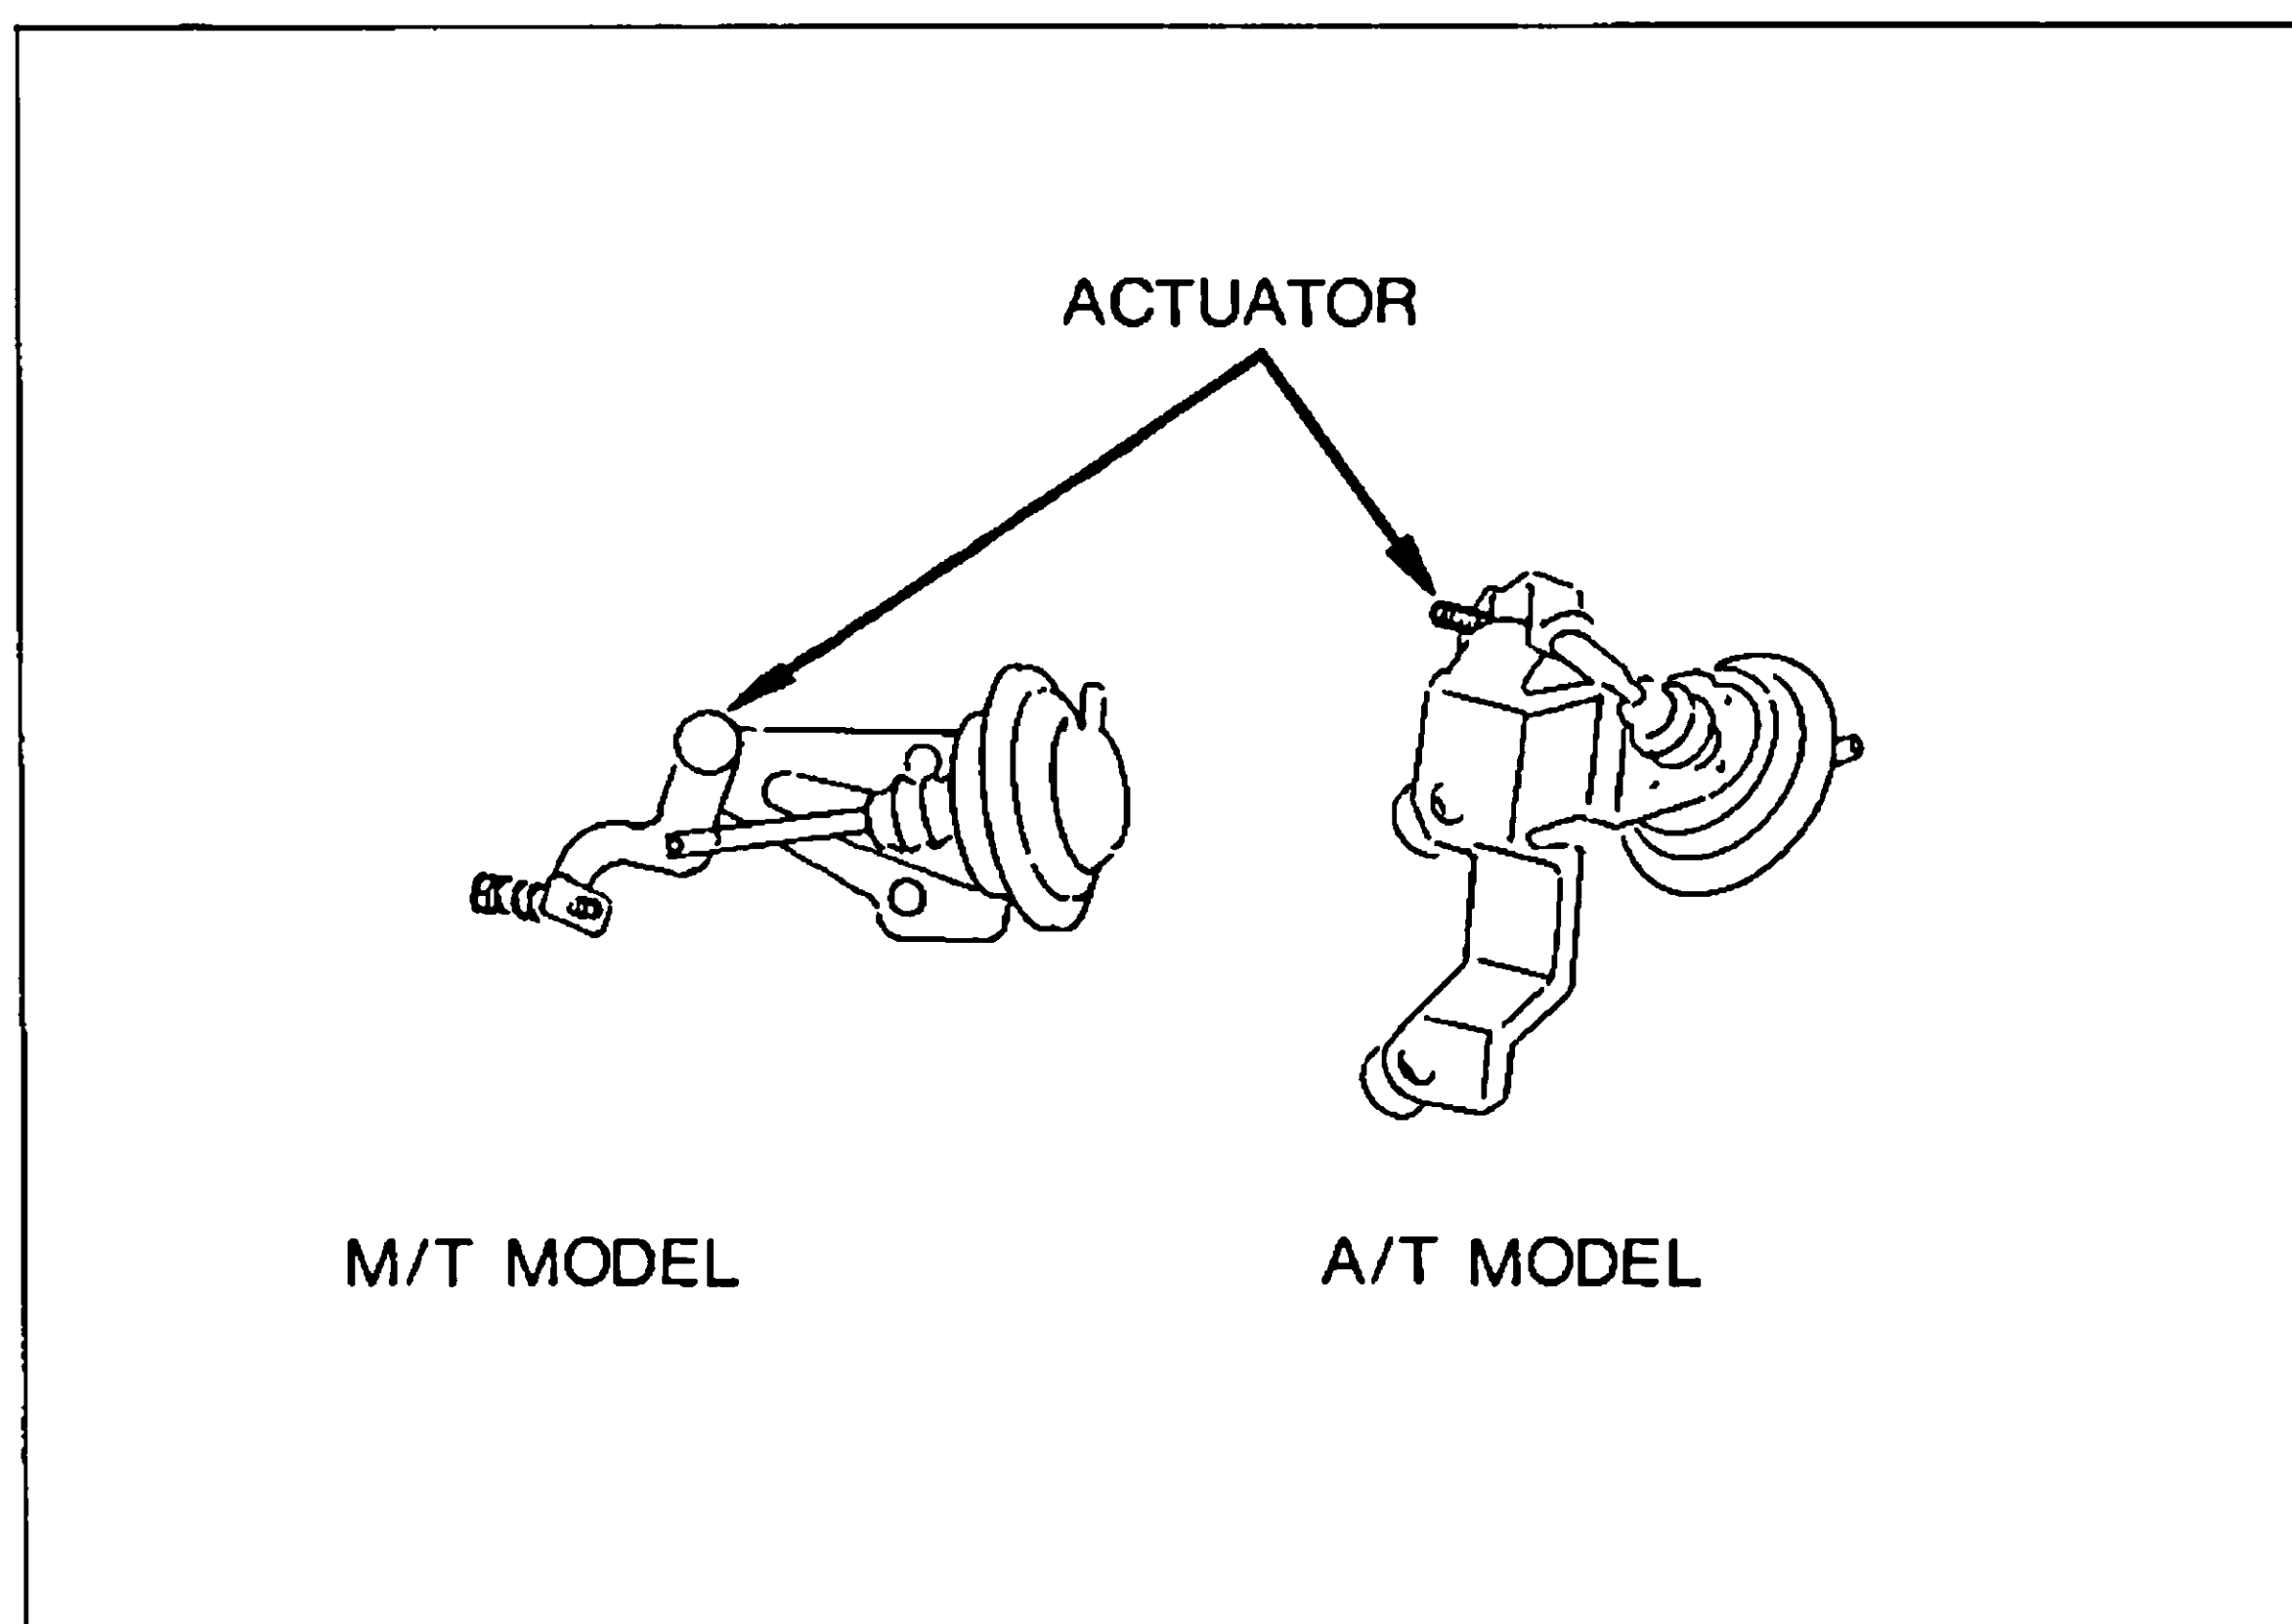
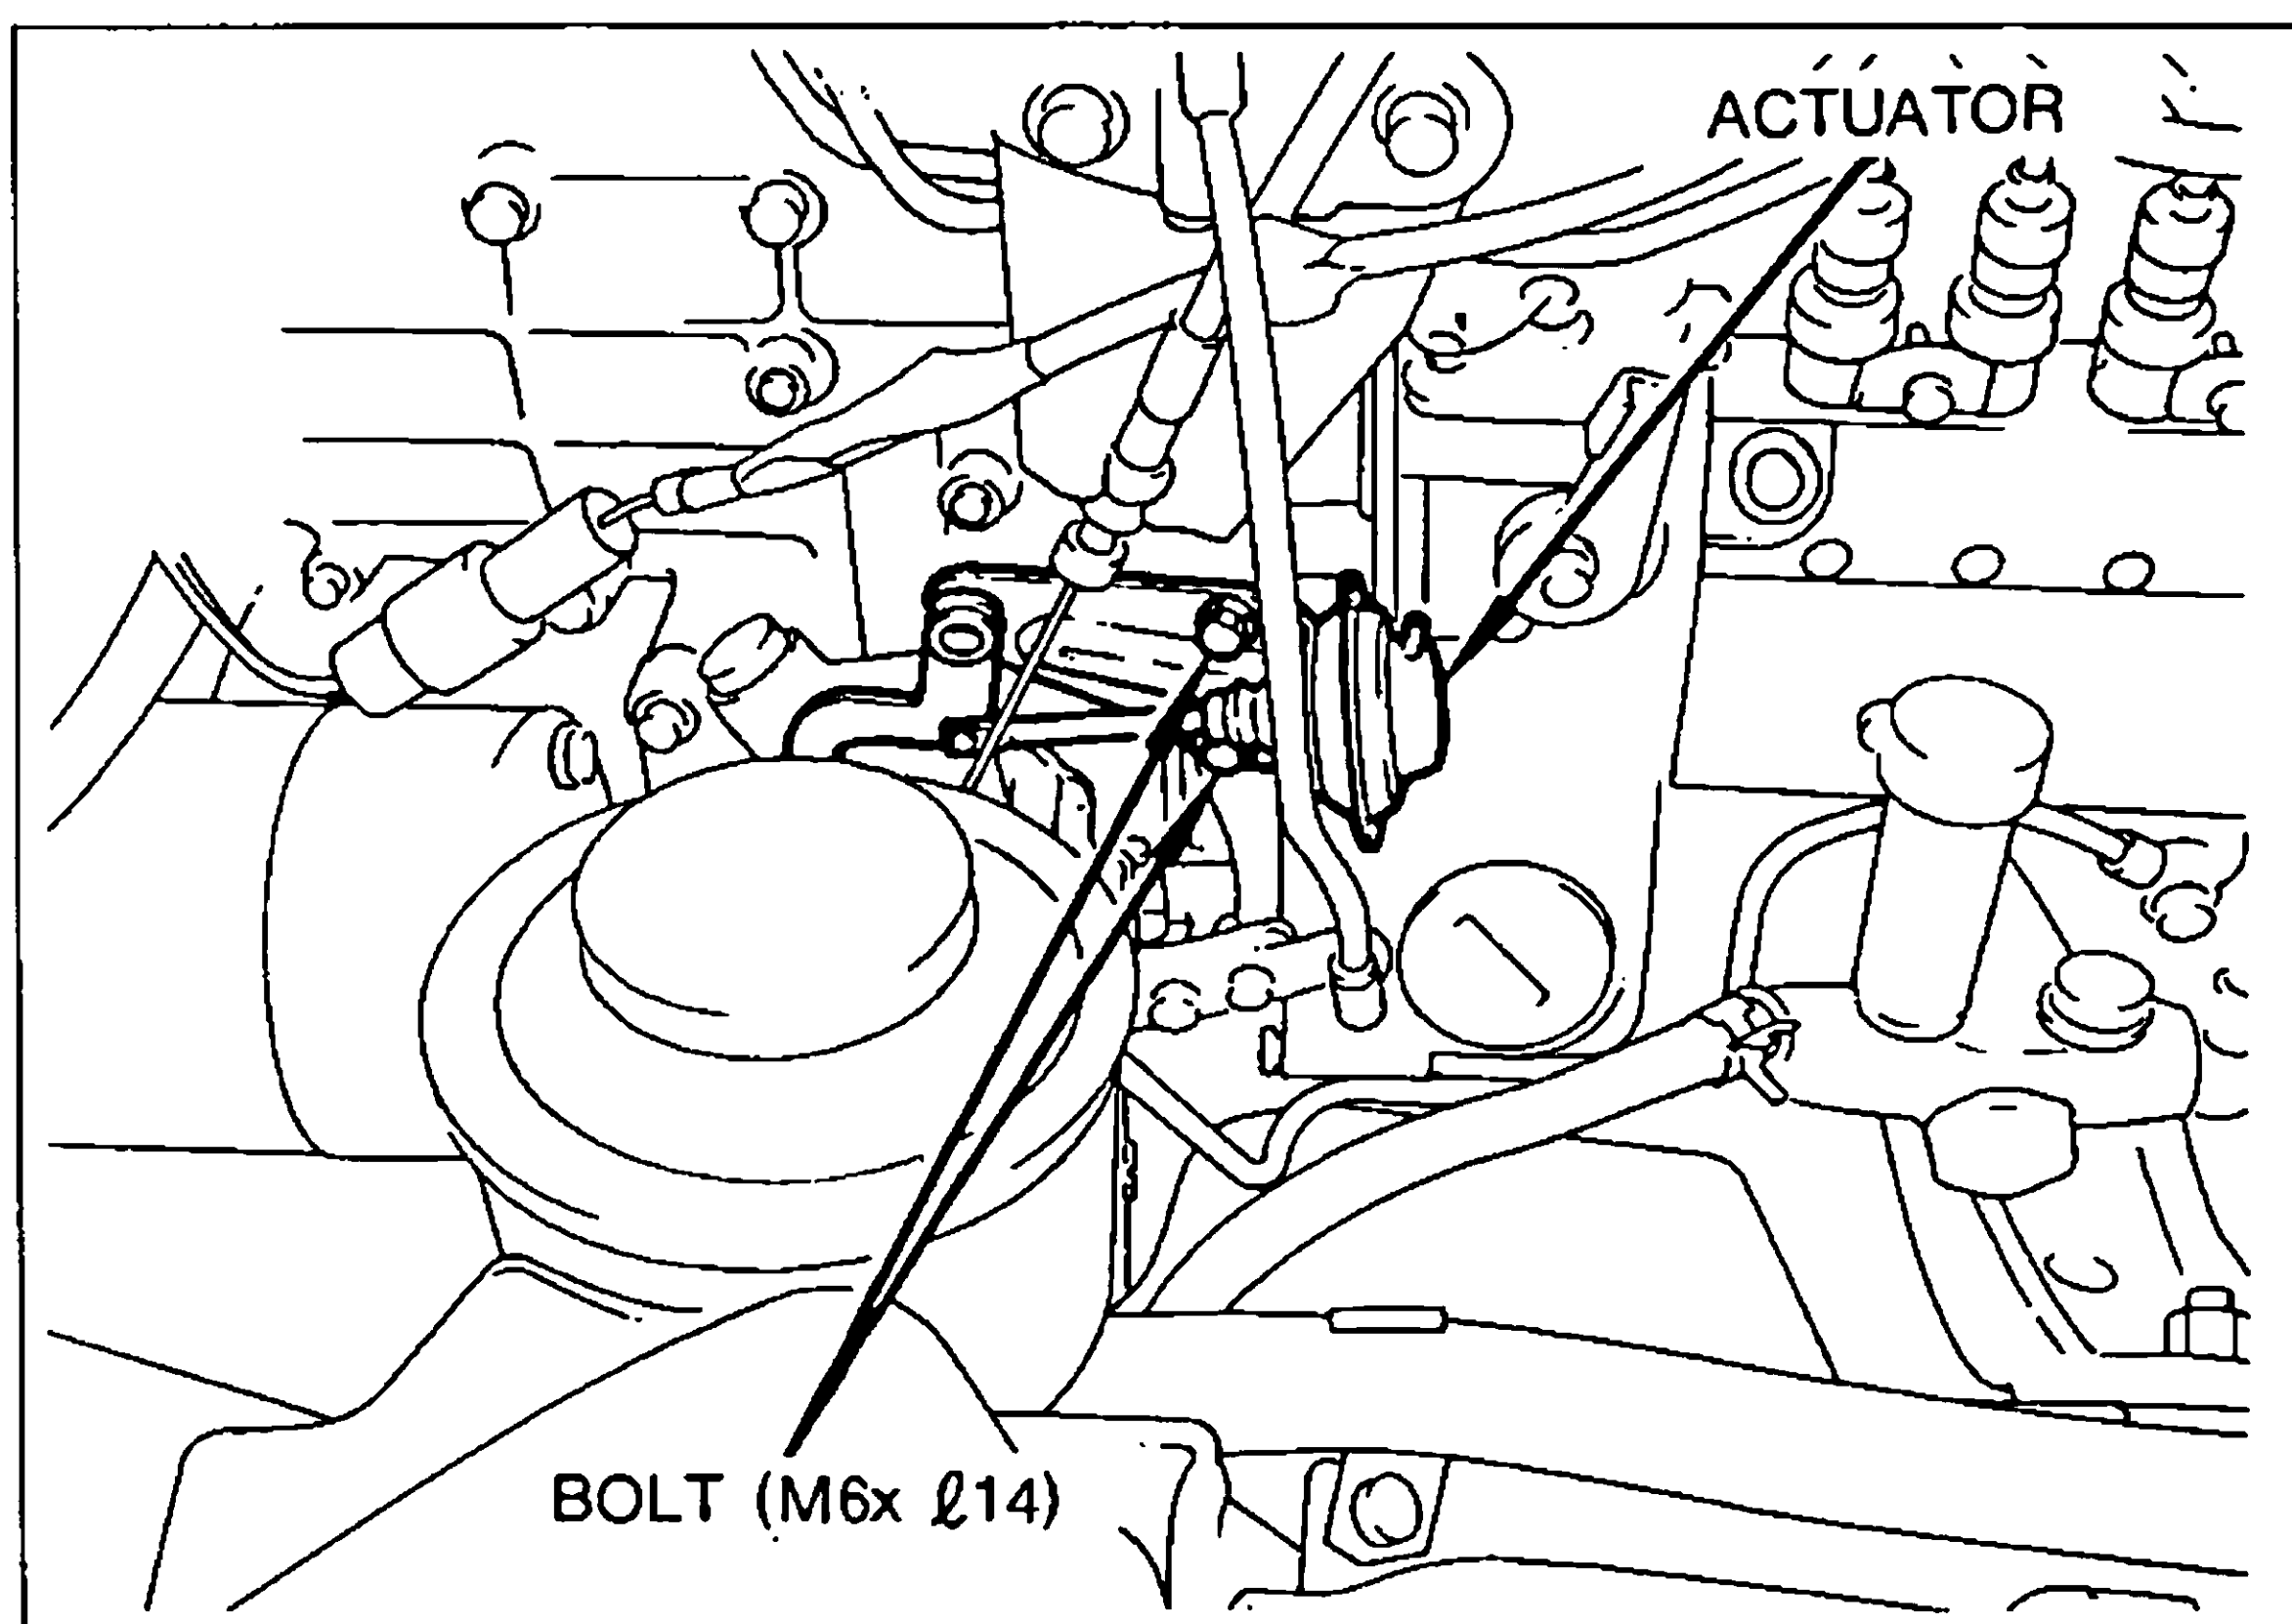
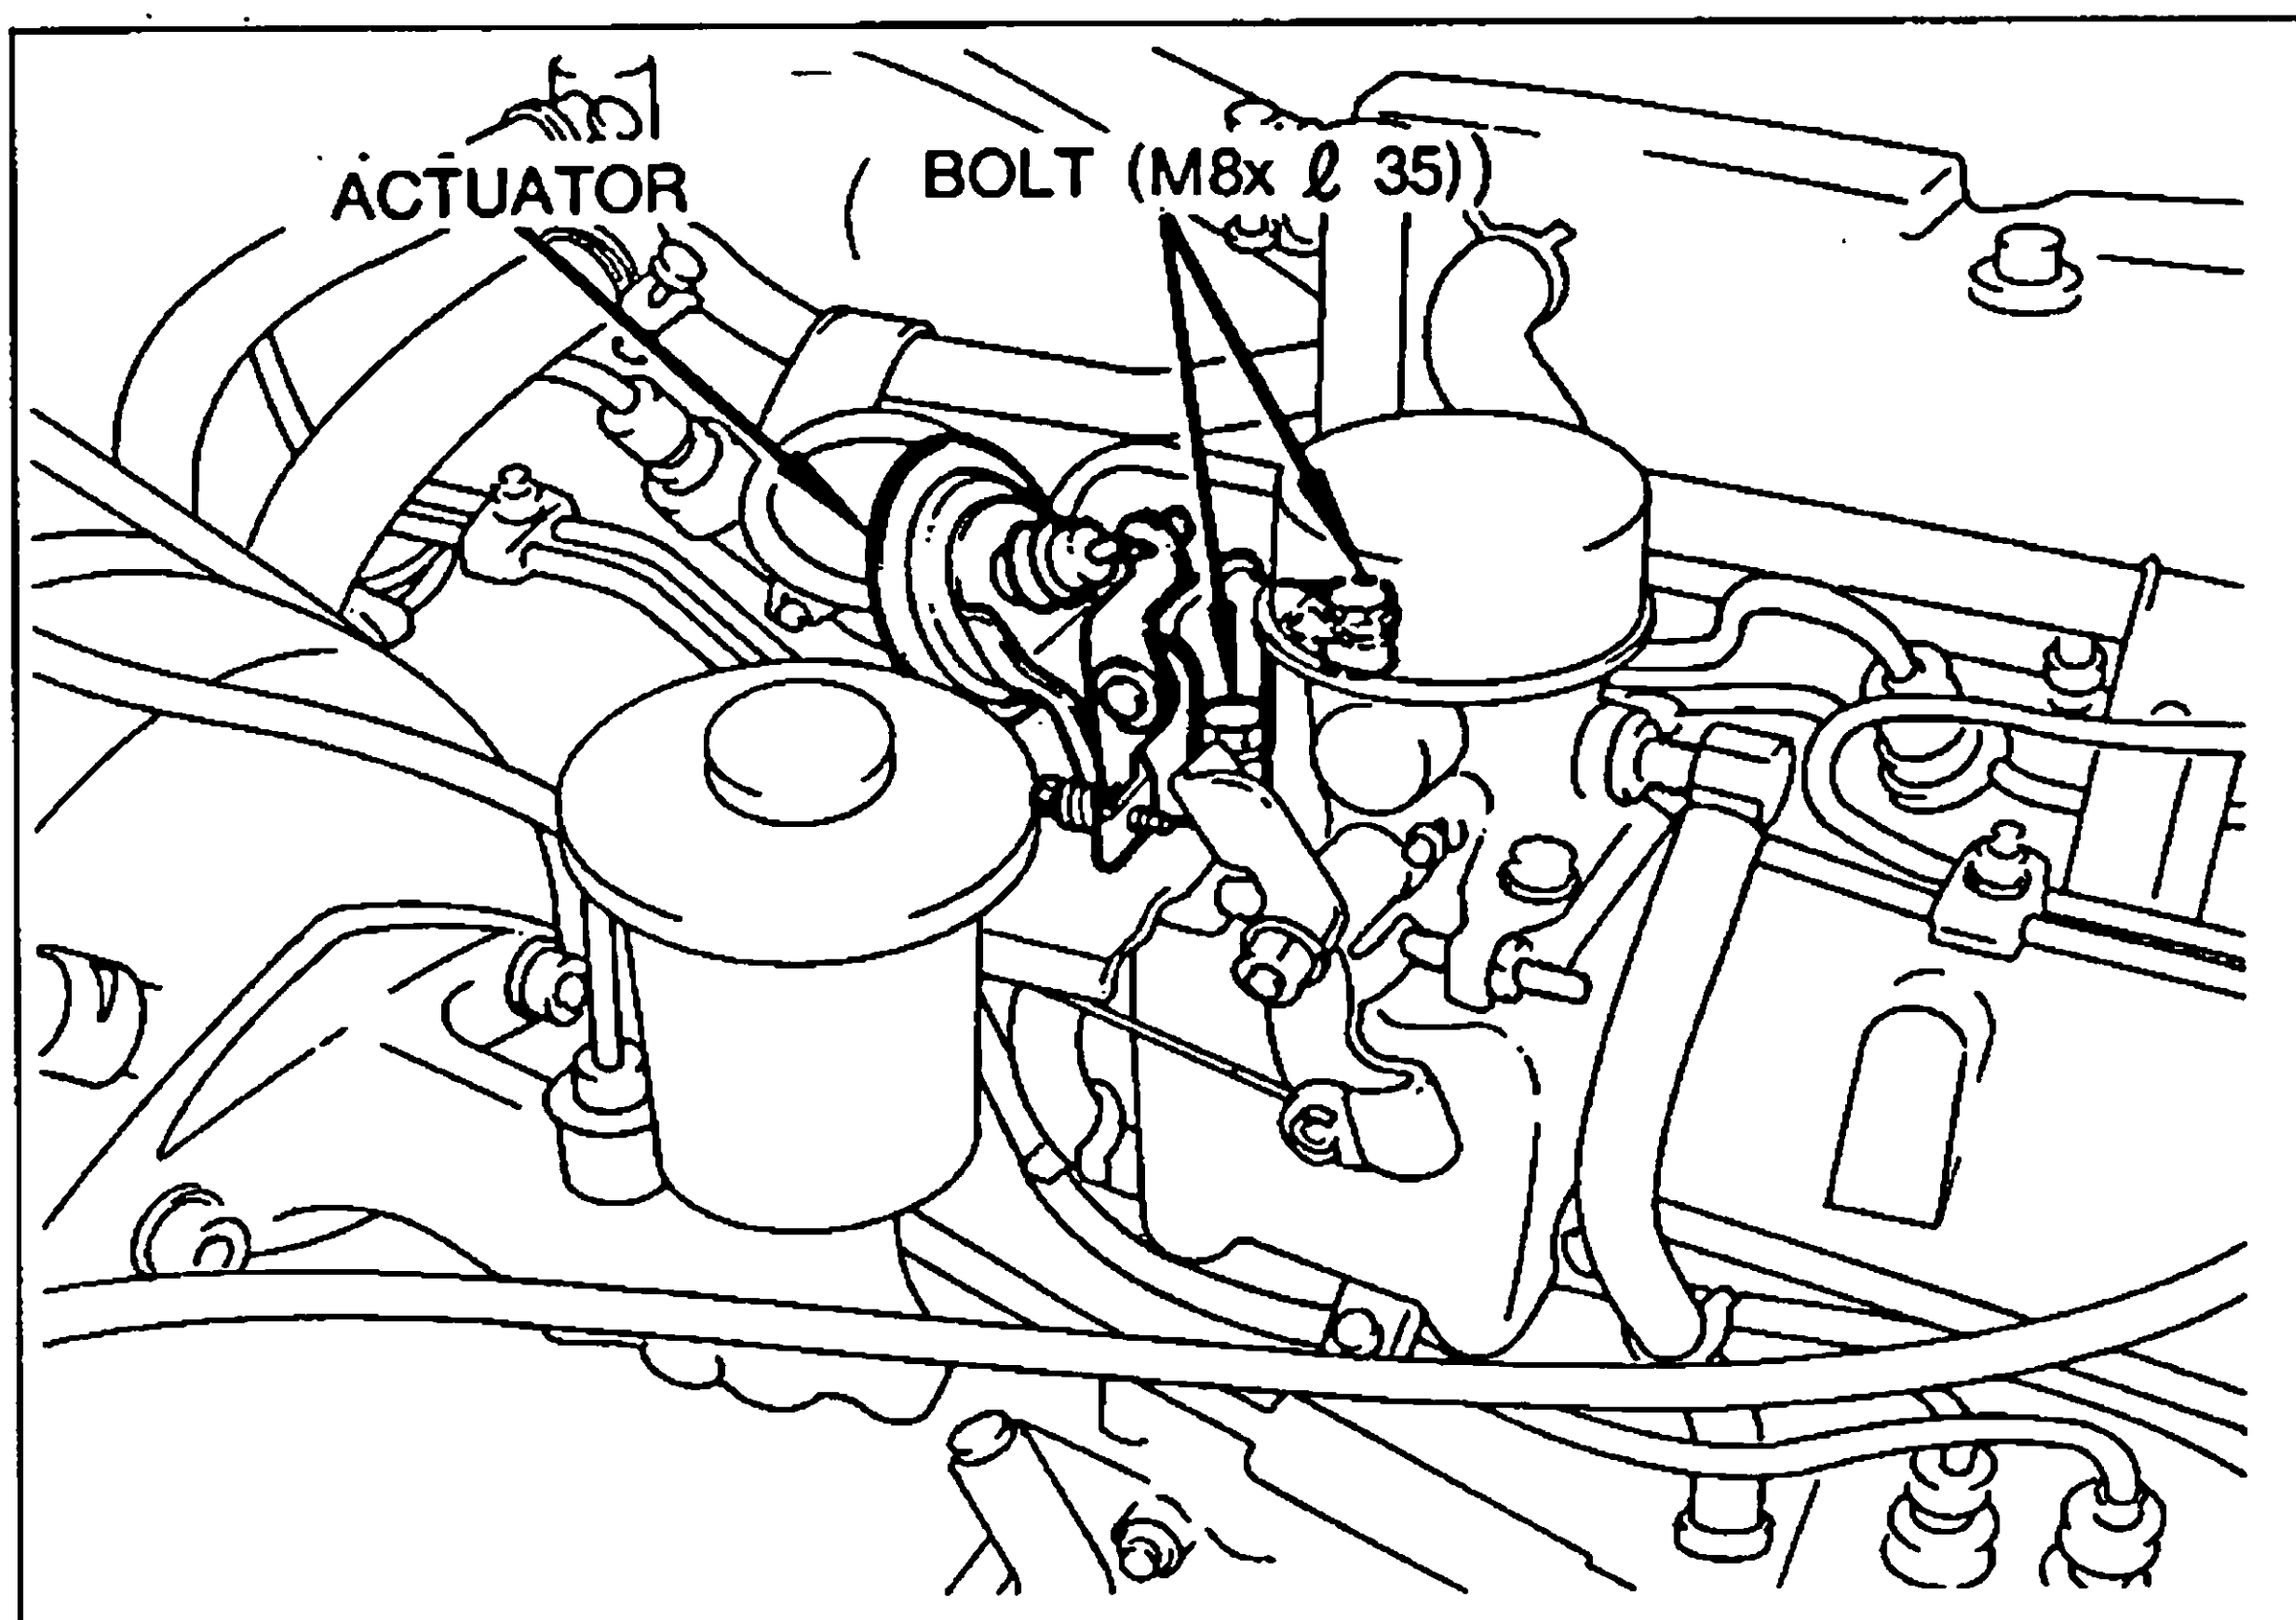

Fig.71
Fig.72
Fig.73
(2) ACTUATOR (M/T MODEL)
- Remove the accerator cable bracket and install the actuator together with the accelerator cable bracket. See Fig. 71 and Fig. 72.
(3) ACTUATOR (A/T MODEL)
- Install the actuator to the bracket of the injection pump. See Fig. 71 and Fig. 73.